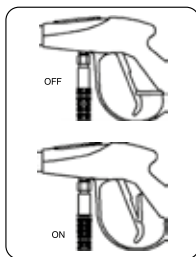

FIGURE 8.6
3. Press the lock-on button of the trigger gun to lock the trigger in the OFF position (Figure 8.6).
8. Release the lock-on button. "ON" unlocked, "OFF" locked (Figure 8.6)